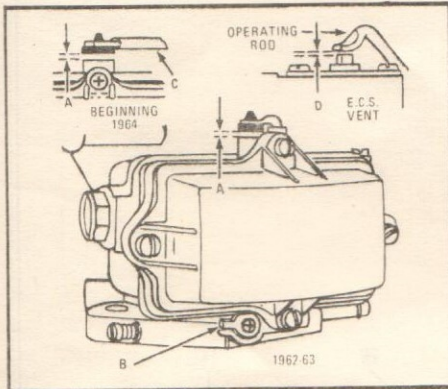
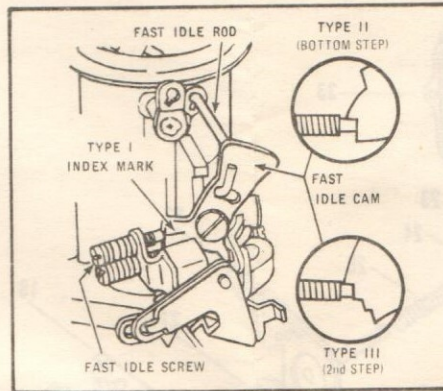

FIGURE 4
FIGURE 5
D. Bowl Vent: (Fig. 4)
1. With throttle closed at normal idle position, and using a drill as a gauge, the distance (A) between vent valve and seat on casting should be as listed in specification table. To adjust, bend tab (B) or operating lever (C) up or down as needed.
2. E.C.S. Carburetors; with throttle set at Hot Idle position, gap (D) between end of vent valve stem and operating rod should be as listed in specification table. To adjust, bend short horizontal portion of operating rod up or down as required.
E. Fast Idle - Cam: (Fig. 5) Carb. off Engine.
J. Fast Idle Speed: (Fig. 5)